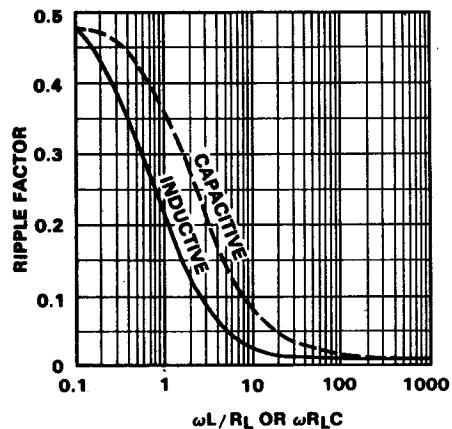
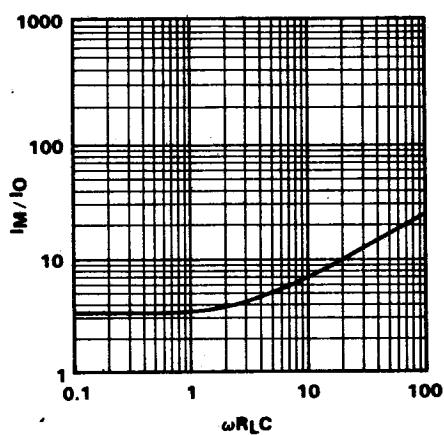
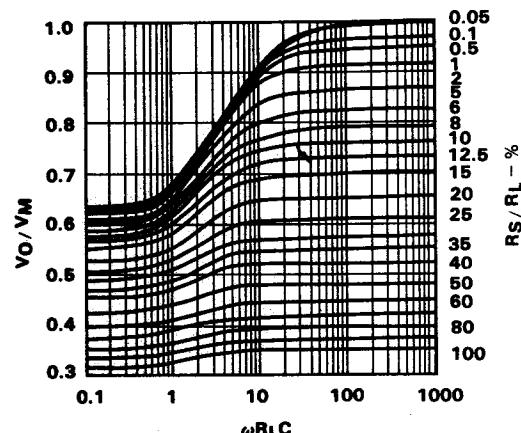

Fig. 4-9. Filter Product
Fig. 4-10. Peak-to-DC Ratio
Fig. 4-11. Load Regulation
There are two interesting features. Efficiency has doubled, as can be expected when doubling the number of rectifiers. In addition, the ripple factor has decreased from 121% to 48% in comparison with the half-wave circuit. Even with ripple reduction, a 48% factor is normally too high to be useful and must be filtered. Figure 4-9 is the filter product plot for both capacitive and inductive filters, assuming $R_S \ll R_L$. High peak currents are always associated with capacitive filters and Figure 4-10 plots the ratio of peak-to-dc current as a function of the filter product. The relationship between the filter product, the R_S/R_L ratio and the dc output-to-peak input voltage is given in Figure 4-11 for the capacitive input filter. Load regulation may also be determined from Figure 4-11 by using the high and low limits for R_L .
Step 1 Find the filter product from *Figure 4-9*
using the filter values from Figure 4-11.
$V_{pk} = 0.7 + \frac{.20}{0.82}$ (intersection of $\frac{R_S}{R_L}$ and $\omega R_L C = 10$ from Figure 4-11.)
Step 6 Check peak diode current from Figure 4-10. For this example at a filter product of 10, the peak current is seven times the dc current, or 7 A.